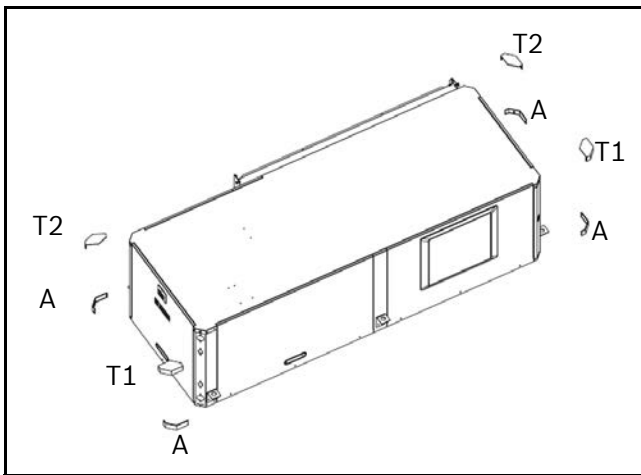

Fig. 40
2. In preparation for installation identify each corner cap location. (See Fig. 40.)